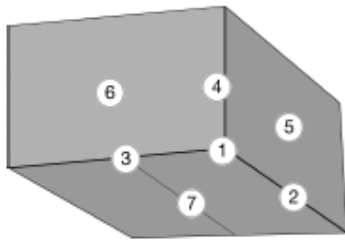

Fig. 43: Order of the impact points
- The order of the impact points is shown in Fig. 43 and the dropping heights used are shown in Fig. 44.